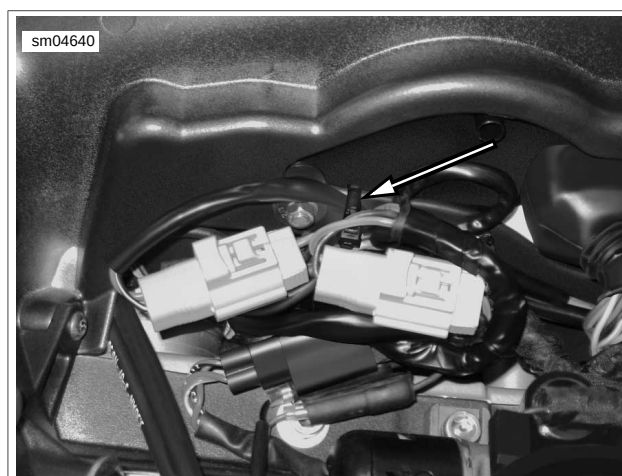

Figure 7-33. Location of Cable Strap Securing the Right Side Hand Grip Wire Below the Instrument Cluster
6. See Figure 7-33. On the right side, install a cable strap securing the heated grip lead and hand control wires together under the right hand side of the instrument cluster.